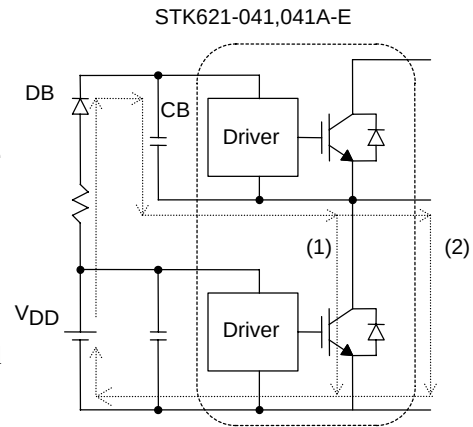

Figure 3 Bootstrap circuit and charge path
| Diode forward voltage                    | V F        | I O =-10A                               | Upper side |     | 1.7   | 2.3 | V    | Fig.3        |
(4) VB1, VB2 and VB3 pins
These pins connect the positive power supplies for the upper-side power device pre-driver circuits. The three control power supplies each require an electrically insulated floating power supply. In addition to the method that uses three independent power supplies, this power supply can also be configured using the bootstrap circuit shown in Fig. 3. As shown in this figure, CB has a path (1) that is charged when the lower-side device is ON, and a path (2) for motor regeneration mode. The CB section voltage fluctuates according to the switching frequency and duty ratio of the external control circuit. Therefore, the CB capacitance value must be set in consideration of the voltage fluctuation. DB should use a high-speed type FRD with a fast  $t_{tr}$  and  $V_R = 600V$ . RB is used to limit the rush charging current during CB initial charging. Note that a large rush charging current may cause the internal circuits to malfunction. CB can also be charged before startup by connecting high-value resistors to the output pins and minus pins. (Care must be taken for the withstand voltage and the power.)